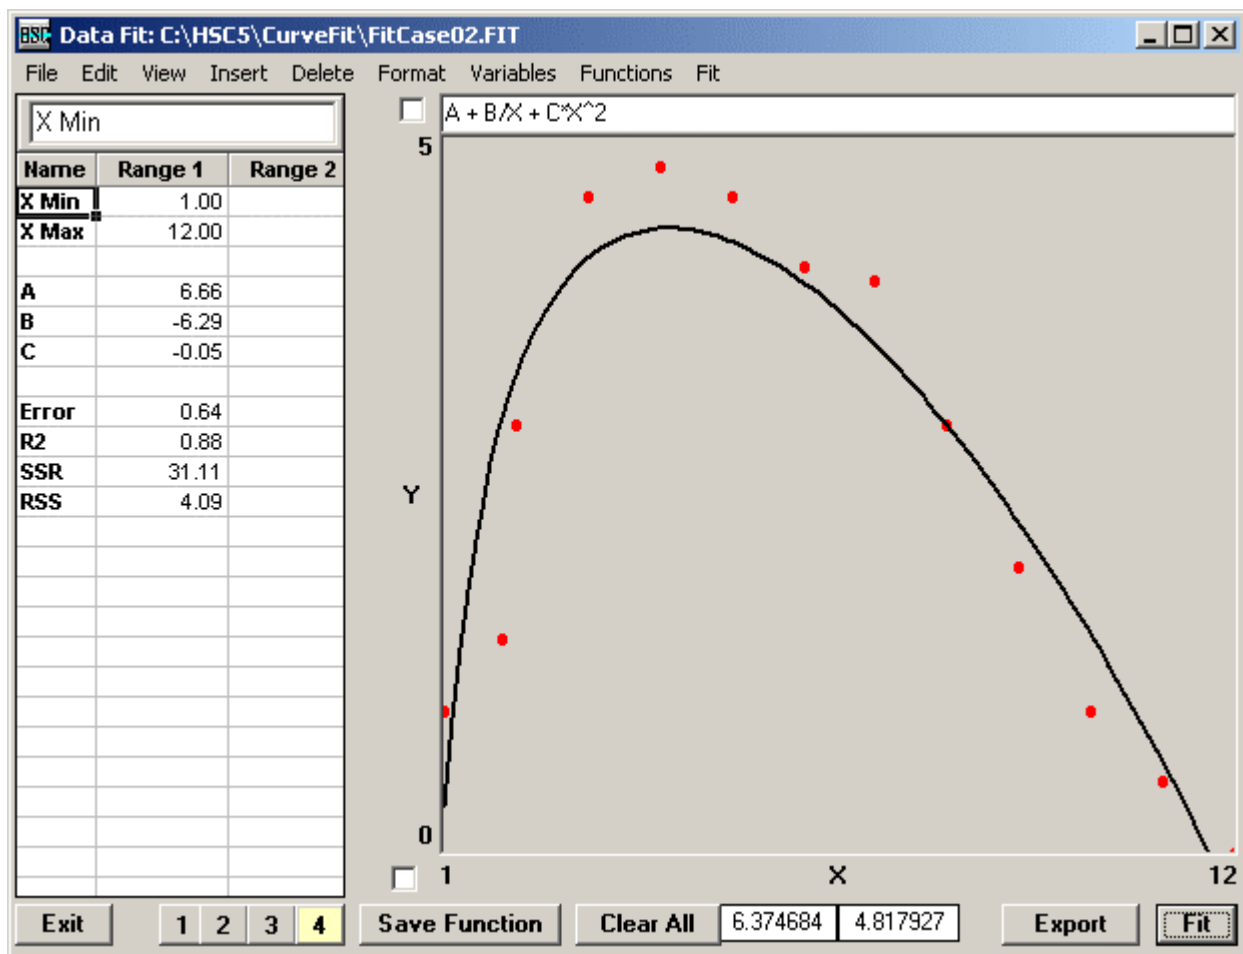

Fig. 5. Results of Data Fit in tabular and graphical format.
After you have specified the function and data you may try fitting by pressing **Fit**, Fig. 5. The parameter A, B, C, ... values are given in the left-hand table and the data points and the function are shown on the diagram.
- Edit the function formula directly in the cell in Fig. 5.